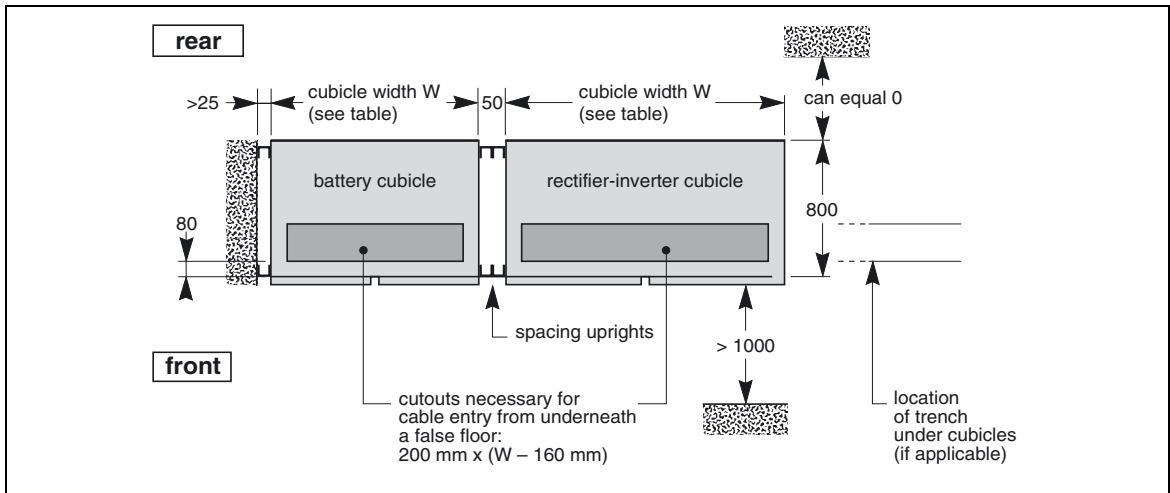

Fig. 6
2.4 Cubicle layout on false floor or normal floor (figures 6, 7, 8)
- in a cable trench running underneath the front of the cubicles (see trench dimensions and layout in figure 6),
- under a false floor. A cutout must in this case be made in the floor for cable entry (see figure 6 for dimensions),